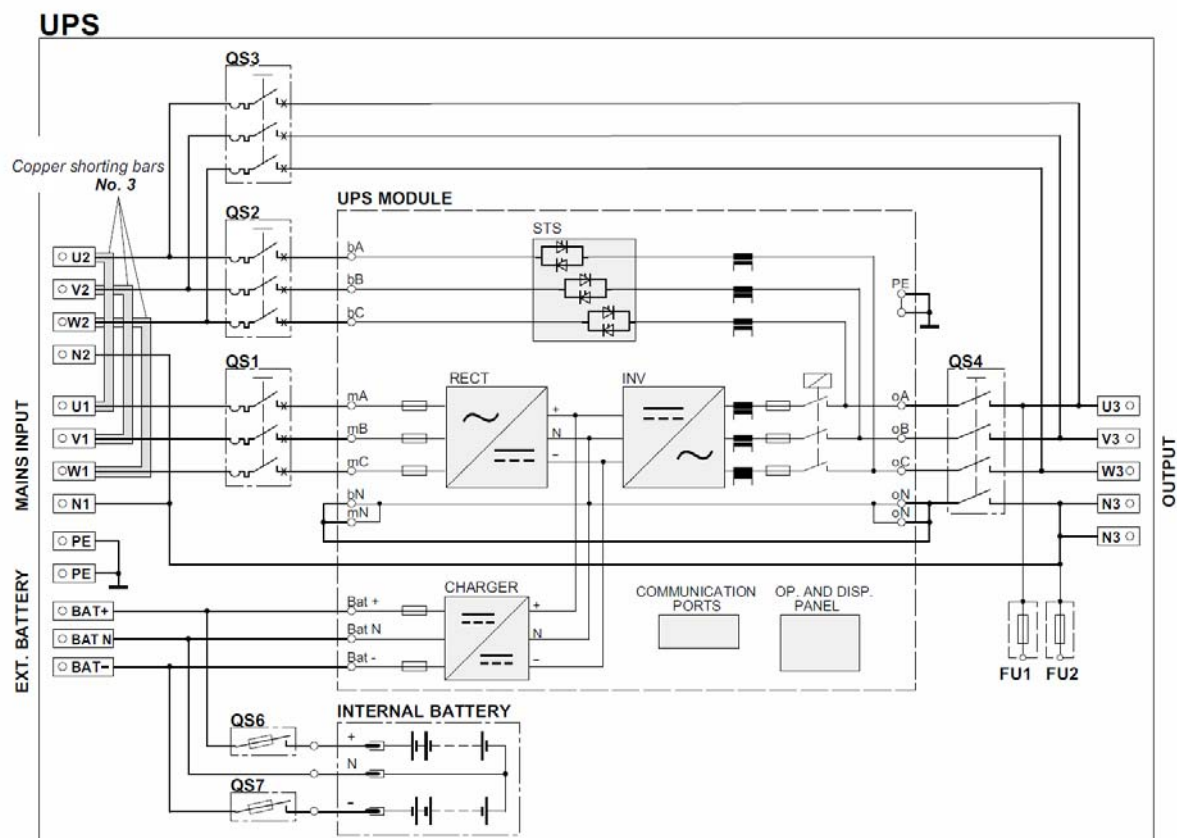
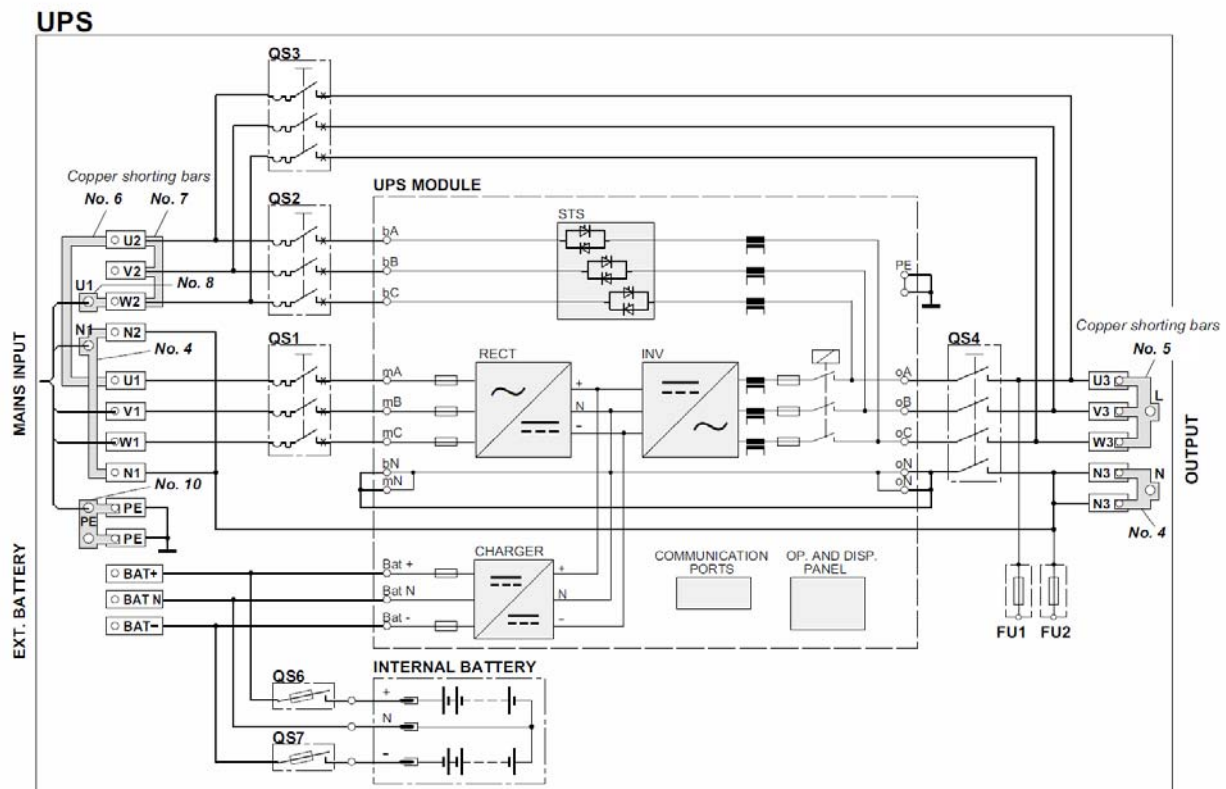
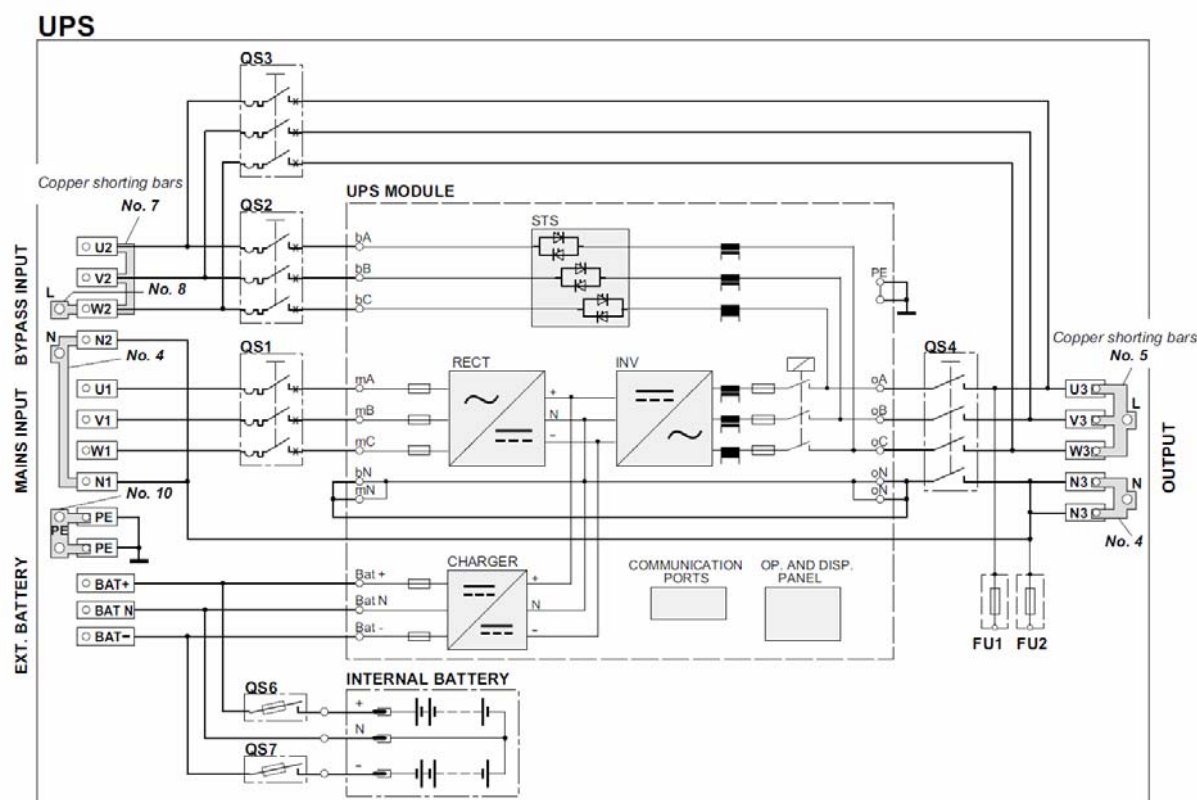
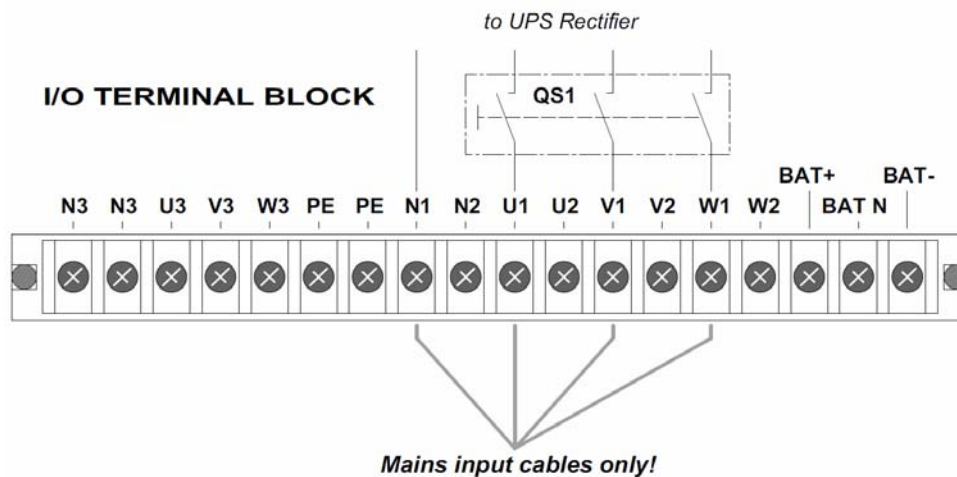

Figure 3-5 3-in 3-out, common source configuration cable connection
Figure 3-8 3-in 1-out, common source configuration cable connection
Figure 3-9 3-in 1-out, split-bypass configuration cable connection
Figure 3-11 Main input
2. Connect the live lines (output phase L1, output phase L2 and output phase L3), N line and PE line respectively to the I/O terminal block (U3, V3, W3 and N3 and PE terminals) of the UPS, as shown in Figure 3-5.
3. As shown in Figure 3-8, short connect U2, V2 and W2 terminals using the copper shorting bar 7, short connect the PE terminals of the I/O terminal block of the UPS using the copper shorting bar 10 with insulating film, short connect U3, V3 and W3 terminals using the copper shorting bar 5, short connect U1 and U2 terminals using the copper shorting bar 6, short connect N1 and N2 terminals, and two N3 terminals using the two copper shorting bar 4.
4. Connect the copper shorting bar 8 to one end of the copper shorting bar 7 (see Figure 3-8), and connect the live line (input phase L1) to the copper shorting bar 8.
3. As shown in Figure 3-9, short connect the two PE terminals of the I/O terminal block of the UPS using the copper shorting bar 10 with insulating film, short connect U2, V2 and W2 terminals using the copper shorting bar 7, short connect U3, V3 and W3 terminals using the copper shorting bar 5, short connect N1 and N2 terminals, and two N3 terminals using the two copper shorting bar 4.
5. Connect the copper shorting bar 8 to one end of the copper shorting bar 7 (see Figure 3-9), and connect the live line (bypass input phase L) to the copper shorting bar 8.
1. Remove all the copper shorting bars 3 shown in Figure 3-5 of the 3-in 3-out system; connect the main input cables only. It is prohibited to connect the bypass input cables, output cables and battery cables at this stage, as shown in Figure 3-11.
1. Remove all copper shorting bars shown in Figure 3-8 and Figure 3-9 of the 3-in 1-out system, connect the main input cables only. It is prohibited to connect the bypass input cables, output cables and battery cables at this stage, as shown in Figure 3-11.